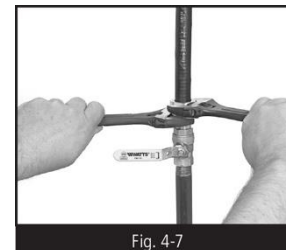

Fig. 4-7
Step 5 Wrench Fitting (Fig. 4-7)